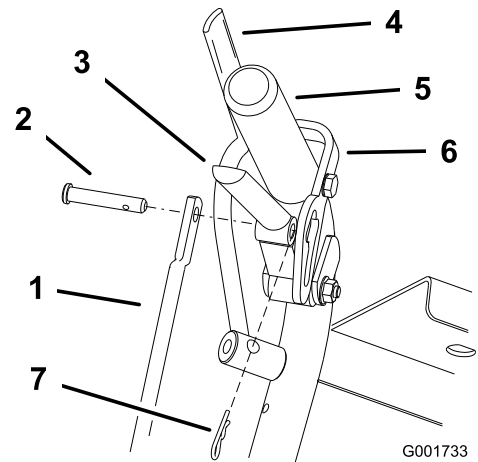

Figure 22
- Remove the hairpin cotter pins and clevis pins from the drive levers and neutral locks (Figure 22).